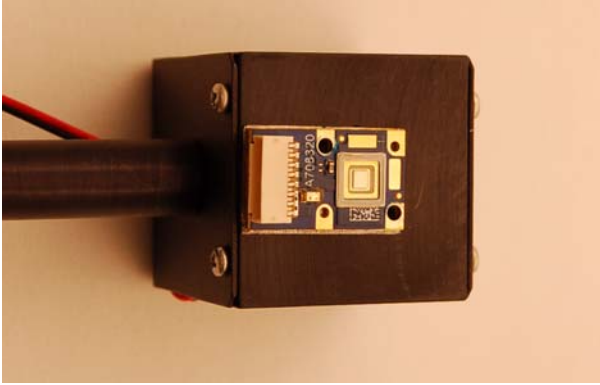

Figure 9: PhlatLight device placed on top of thermal interface material
3. Place the device on the thermal pad, taking care that the hole patterns match (Figure 9).